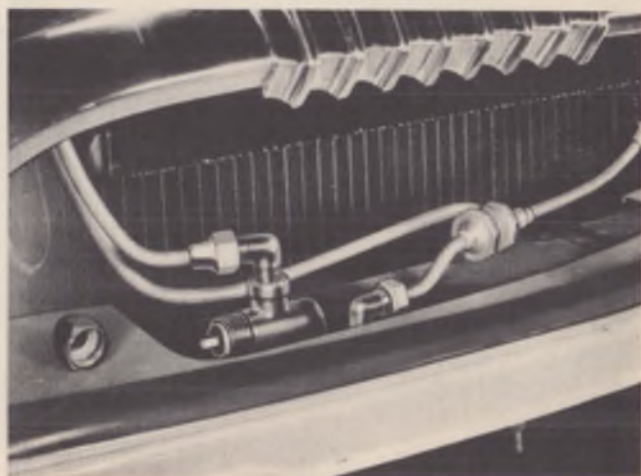

Fig. 2
3. Close the liquid line valve at the receiver, shown in Figure 2, using Valve Key J-5427.